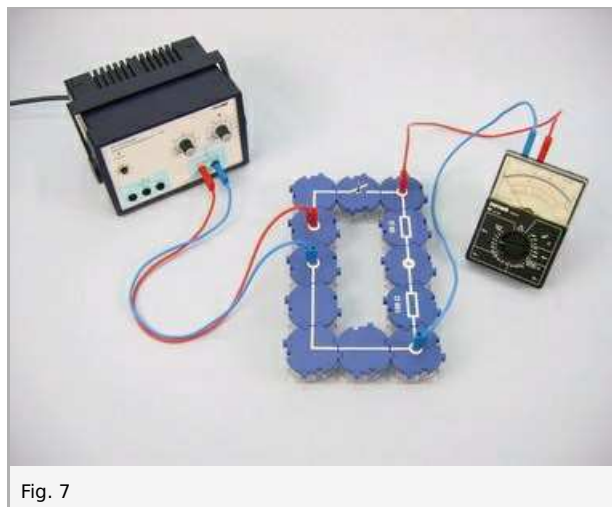

Fig. 7
- In the same way, measure the partial voltage U_2 across R_2 (Fig. 7) and enter the measured value in table 1, too.